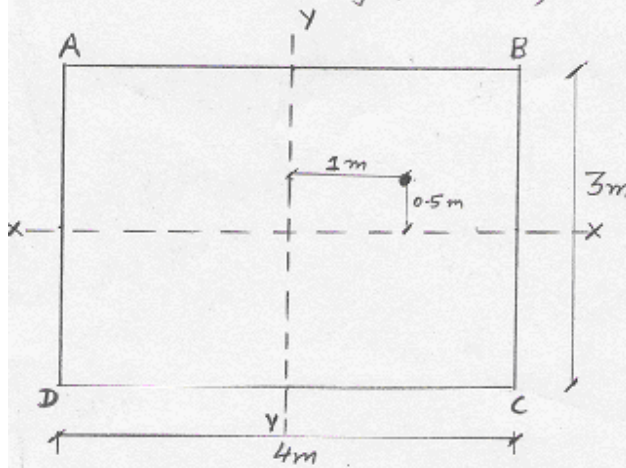

Fig. 5 (Q.4.B)
- (b)** A masonry pier of 3 m x 4 m supports a vertical load of 80 kN as shown in **Fig.5**. Find the stresses developed at each corner of the pier. **07**